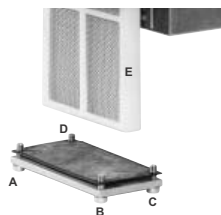

Fig. 37
- 2 Remove screws 1 ÷ 6 (Fig. 37).